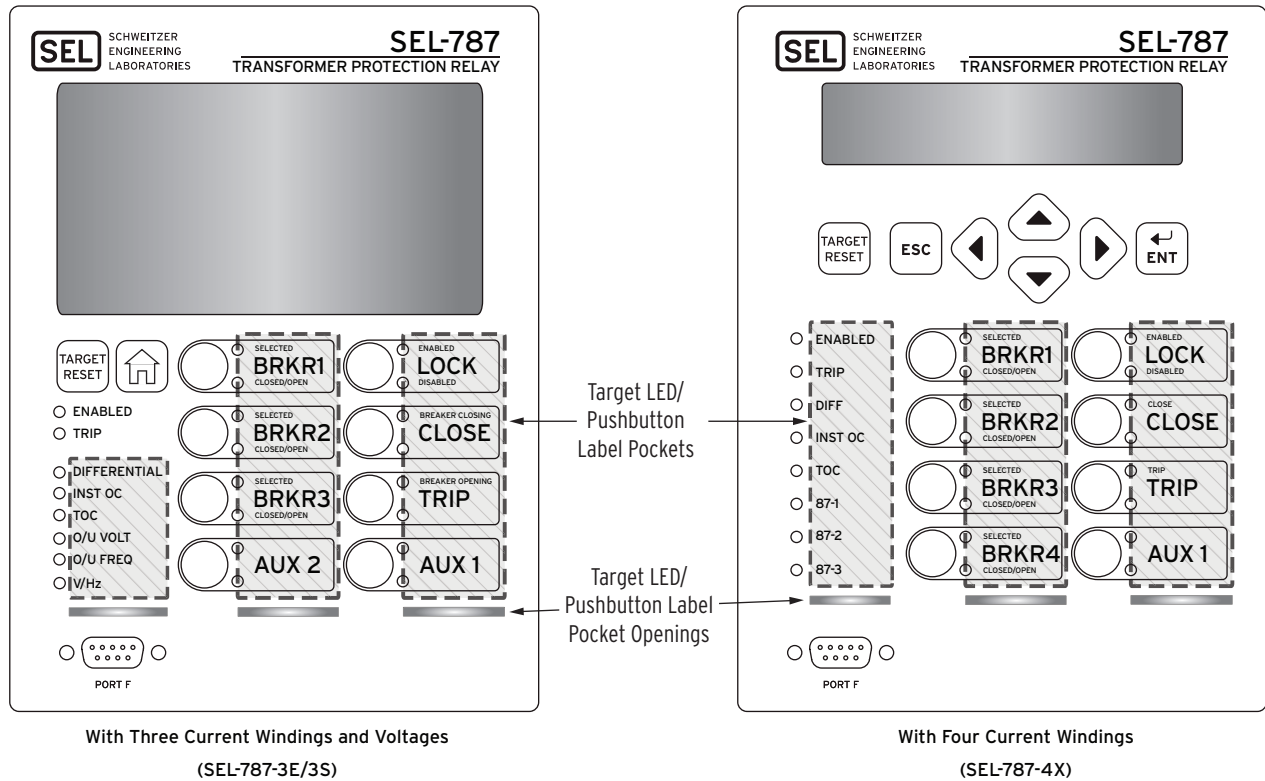

Figure 1 Typical Configurable Label Areas on 700 Series Relays
The SEL-700 Series Industrial Configurable Labels Kit provides the materials and information needed to customize the target LED and operator control pushbutton areas of the front panel. *Figure 1* shows a typical SEL-700 Series Relay with pocket areas and openings.
Note that some of the SEL-700 Series Relays have only four pushbuttons instead of the eight pushbuttons shown in *Figure 1*.
Step 1. Slide the tip of the tool under the label at the pocket opening (see *Figure 1* for example opening locations).